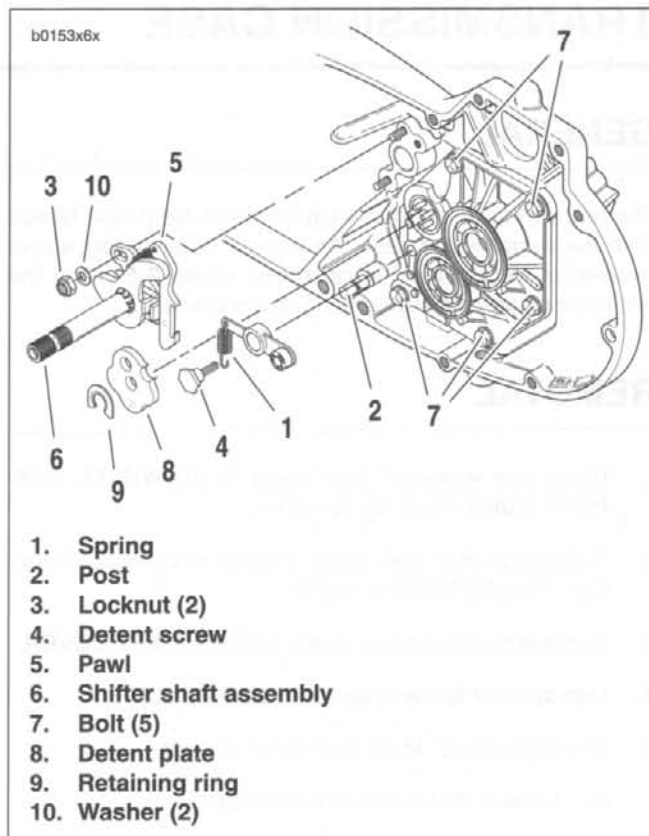

Figure 6-30. Shifter Shaft Assembly
12. See Figure 6-30. Detach spring (1) from groove in post (2).
13. Remove retaining ring (9) and detent plate (8). You will need to use a **new** retaining ring for installation.
14. Remove two locknuts (3) and washers (10) which attach shifter shaft assembly (6) to studs at transmission case. Remove shifter shaft assembly.
15. Remove five access door bolts (7). Remove transmission assembly by pulling it straight outward, away from transmission case.